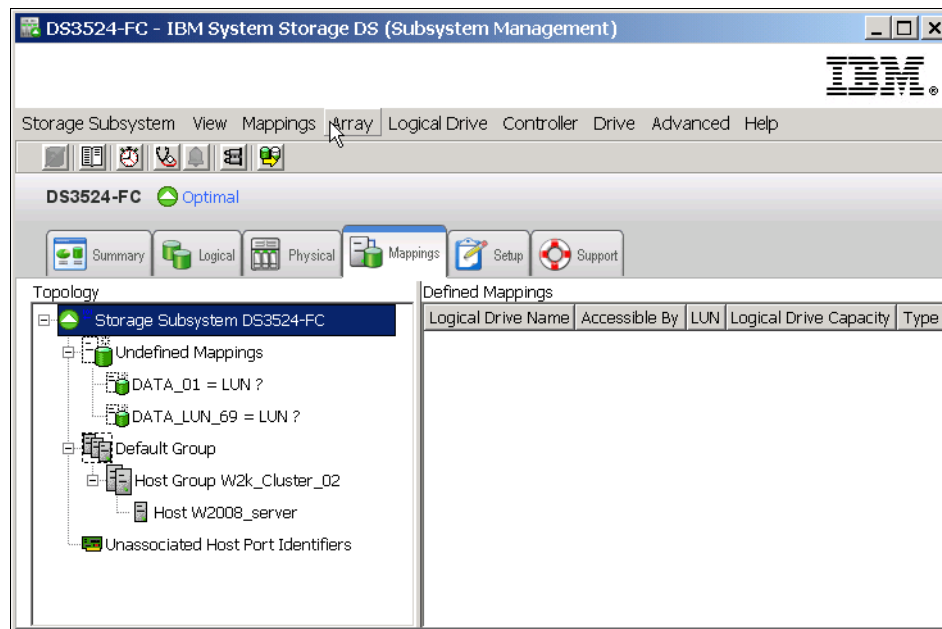

Figure 11-11 Host defined
- After the process is completed, the new host (and the host group, if it was also defined) is placed in the Default Group in the Topology tree (Figure 11-11). It will stay there until you actually create a storage partition by assigning the logical drives to that host (or host group).